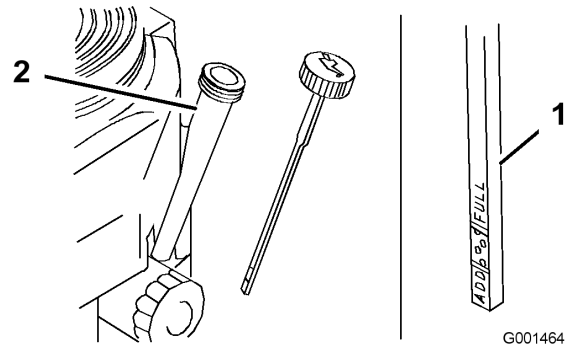

Figure 33
4. Clean around the oil dipstick (Figure 33) so that dirt cannot fall into the filler hole and damage the engine.
5. Unscrew the oil dipstick and wipe the end clean (Figure 33).
6. Slide the oil dipstick fully into the filler tube, but do not thread onto tube (Figure 33).
9. Slowly pour approximately 80% of the specified oil into the filler tube (Figure 33).